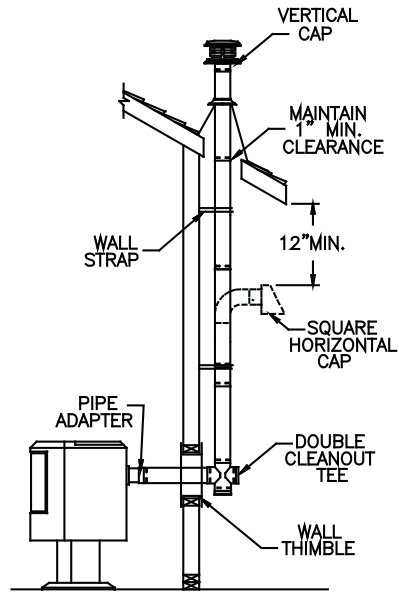

Figure 11
4. If the flue exit is on the back of stove, and an exterior vertical installation or partial vertical installation is desired (**Figure 11**):